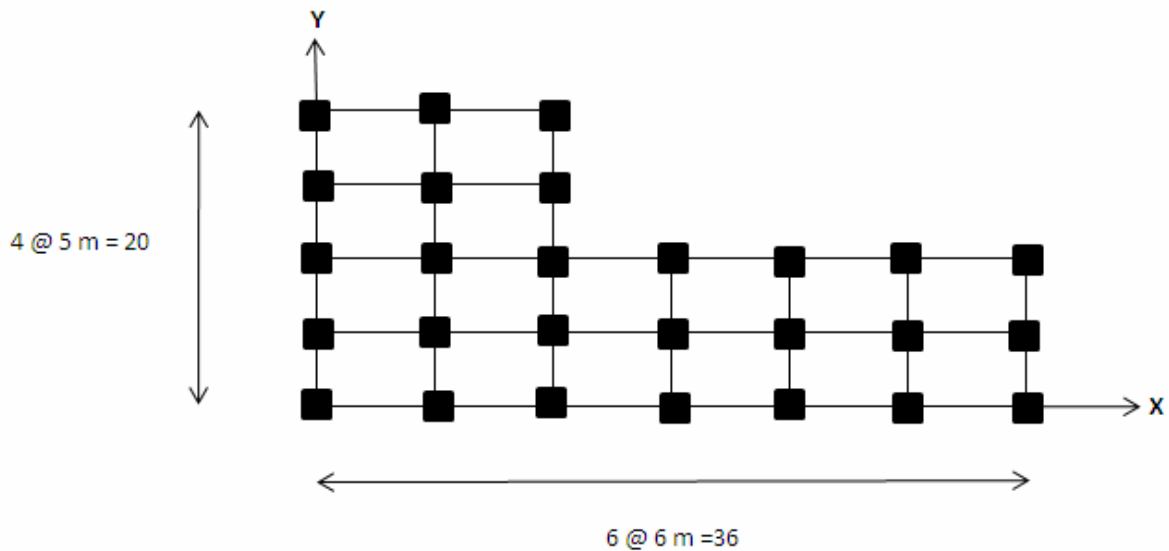

Fig. 1 Plan of four storied building (c/c line diagram)
Q.1 (a) Four storied building (MRF with brick infill panels) with live load 3.0 kN/m^2 is to be constructed in seismic zone IV. Plan is shown in **Fig. 1**. Work out seismic forces on the structure by seismic coefficient method using IS 1893-2002. All the beams are $400 \times 500 \text{ mm}$ and columns are $400 \times 600 \text{ mm}$. Roof and floor slab thickness are 150 mm . Wall is of 250 mm thick all around only. Height of each floor is 3 m . **12**
Q.4 (a) Workout the torsional seismic shear of various story only in X direction for plan of building shown in Fig. 1. Modulus of elasticity of concrete is $2.2 \times 10^7 \text{ kN/m}^2$. Unit weight of concrete and masonry are 24 kN/m^3 and 20 kN/m^3 . All other required dimensions have already been given in Q.1. **12**